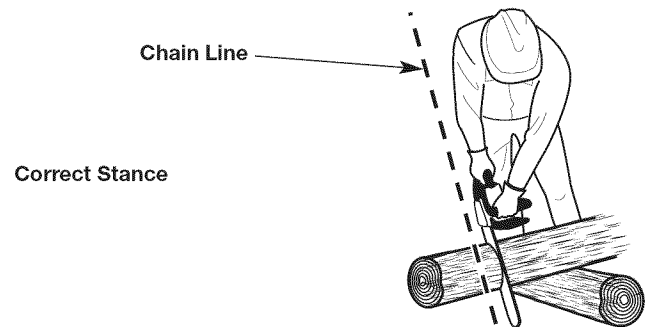
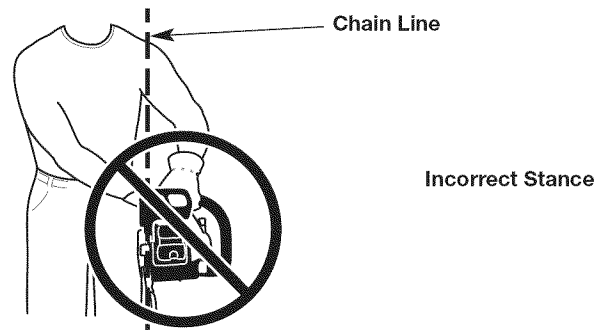

Fig. 8
Fig. 9
- Use these hand placements whether the operator is left-handed or right-handed. This will help keep the operator slightly to the left of the unit and out of the direct line of the chain saw if kickback occurs (Fig. 8 and Fig. 9).